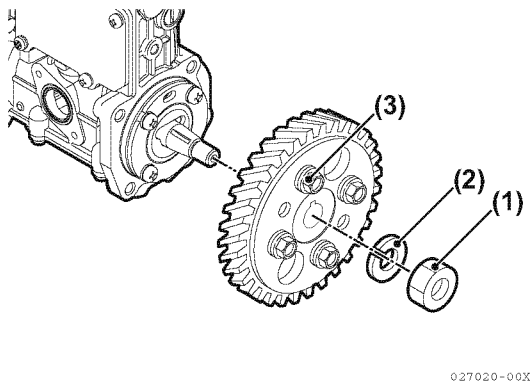

Figure 7-12
15. Do not loosen or remove the four bolts (Figure 7-12, (3)) holding the pump drive gear to the hub. Only remove the single drive gear nut (Figure 7-12, (1)) and washer (Figure 7-12, (2)), leaving the hub attached to the gear.
16. Hold the gear train stationary using a large socket wrench on the crankshaft pulley bolt. Loosen the fuel injection pump drive gear retaining nut (Figure 7-12, (1)) and turn it out to the end of the fuel injection pump shaft.